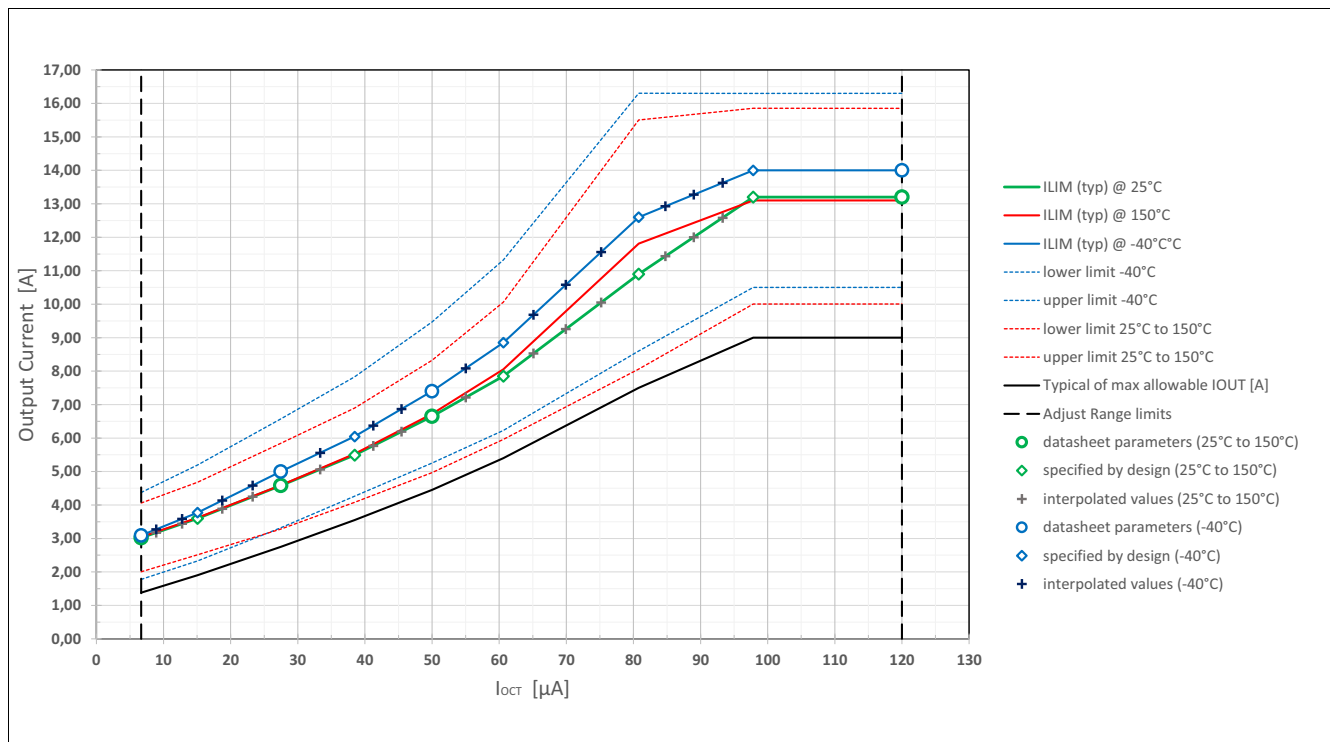

Figure 33 Current limitation threshold $I_{LIM(th,adj)}$ as function of I_{OCT} and related limitation values for different temperatures.
Table 14 below indicates which resistor value R_{OCT} needs to be soldered between OCT-pin and device GND to obtain a desired current limitation threshold $I_{LIM(th,adj)}$. The adjusted current limitation threshold is defined for ambient temperature ($T_j = 25^\circ\text{C}$) and hence, these values coincide with the typical values of the current limit at 25°C . **Table 14** provides an overview about the related minimum and maximum values of the current limit. In a separate column numbers for the maximum allowable $I_{L(NOM)}$ also provides information about the required clearance distance of the output current to the adjusted current limit setting in order not to interact. This clearance needs to be respected for the nominal load current of a given application and represents an upper limit for the allowable nominal load current²⁾. As the typical values of a selected current limit do not vary significantly from $T_j = 25^\circ\text{C}$ up to $T_j = 150^\circ\text{C}$ for most of the I_{OCT} -settings the given maximum and minimum values of the current limit listed in **Table 14** hold true for the temperature range $25^\circ\text{C} \leq T_j \leq 150^\circ\text{C}$. Deviations that have to be expected for the typical values of the current limit at 150°C can be seen in **Figure 33**.
Figure 33 moreover illustrates how the current limitation values will shift for low temperatures. **Table 14** provides typical values for the current limitation for the extreme case of $T_j = -40^\circ\text{C}$. An overview of corresponding minimum and maximum values for the current limitation can be found here.
- $I_{LIM(th,adj)}$ values coincide with typical values of the current limit I_{LIM} @ 25°C . Typical values for I_{LIM} @ 150°C may show deviation from $I_{LIM(th,adj)}$; see Figure 33 for further details